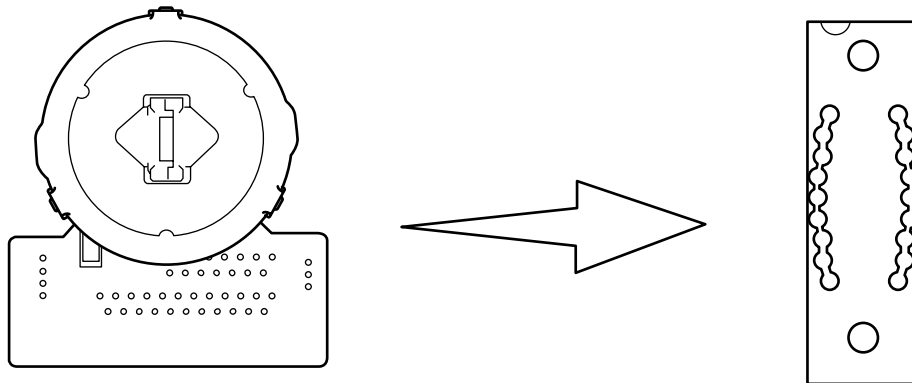

Figure 2-2 Arrangement of the Head Pins View from the Tip of the Printhead
2.1.1 Printhead Mechanism and Operation (See Figure 2-2.)